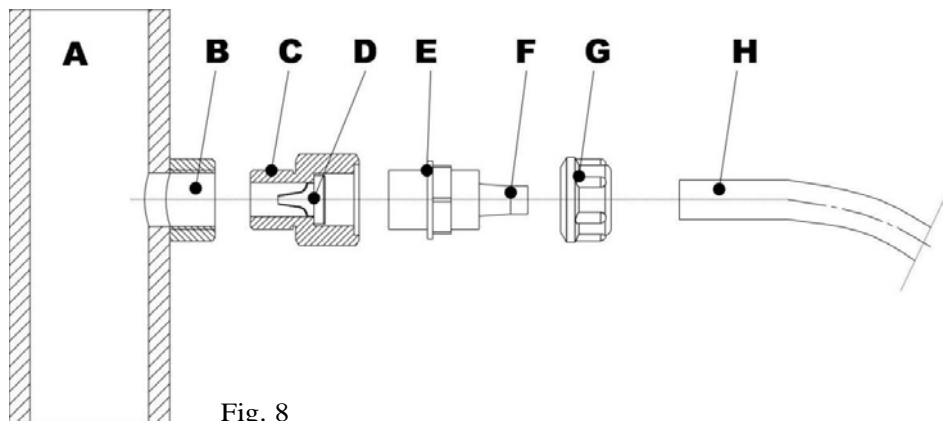

Fig. 8
3.1 - INJECTION VALVE INSTALLATION DIAGRAM (Fig. 8)